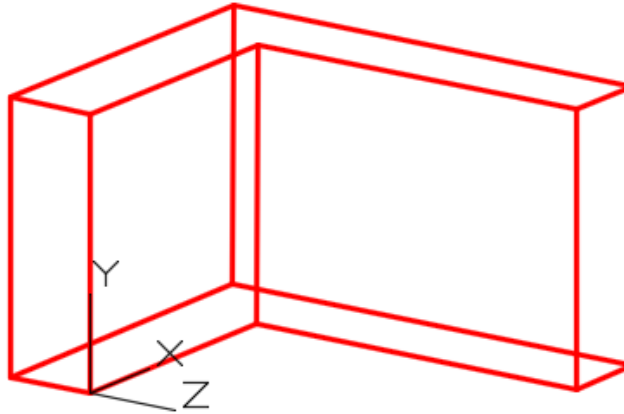

Figure Step 9
Step 9 Set the current UCS to Right and then locate the icon by snapping to the corner of the model as shown in the figure. (Figure Step 9)